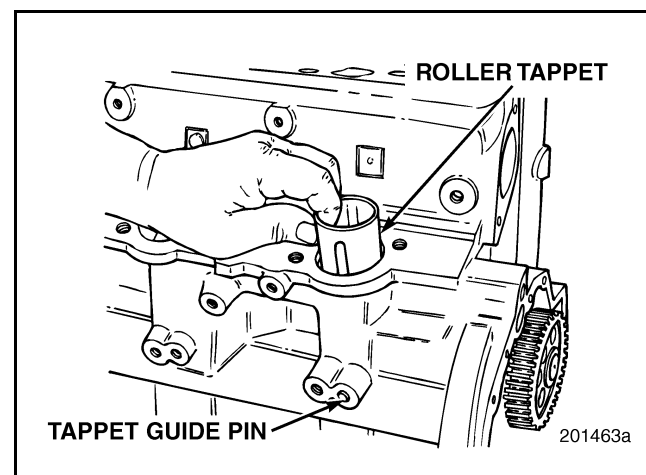

Figure 313 — Positioning Tappet
- c. Drive the pin into the bore until it is flush with the cylinder block outer surface as shown in Figure 313.
2. Generously lubricate the roller tappet with clean engine oil and carefully install it into the bore using a finger. Refer to Figure 313.